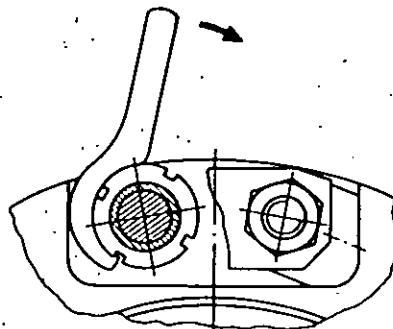

Fig. 4.2
- 4.5.3. Adjust plate packs on the aligned coupling to be without play. The single plates of a plate pack are mounted on an excentric bush (part No.1) whose rim is furnished with slots for a hook spanner. An arrow marking indicates the tightening direction (see fig. 4.2). By turning the bush in the direction of the arrow each plate pack can be adjusted to be with play. In order to avoid plate tilting during tightening, counterhold well on the bolt head.